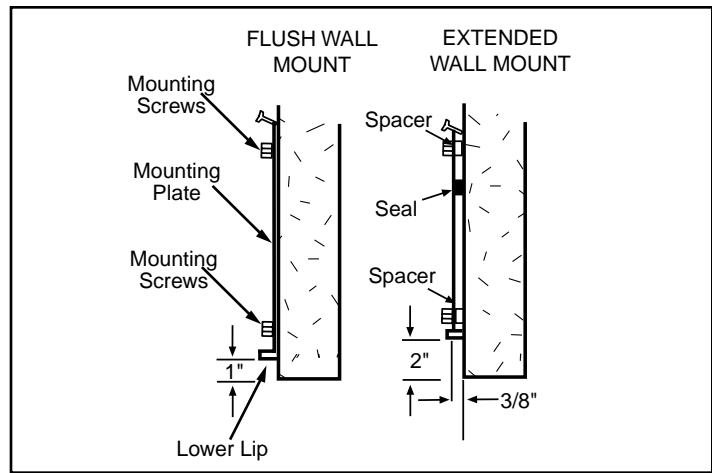

Figure 3
2. The lower lip of the mounting plate should be no more than 1" above the door opening when the unit is mounted flush to the wall. If the air door must be mounted higher, it must be spaced out from the wall 3/8" for every inch the unit is above the door opening. For the best performance, any void between the air door and the wall must be sealed (use foam, plastics or a similar packing). **See Figure 3.**